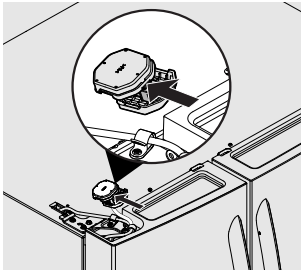

Figure 2
2. Disconnect electrical harness running from door to hinge cover. See Figure 2.